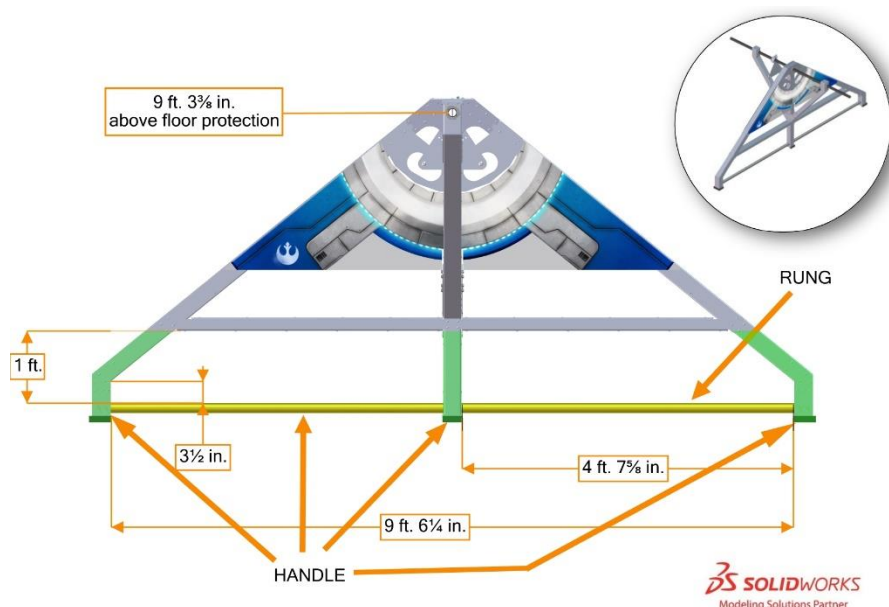

Figure 3-8 GENERATOR SWITCH
Each SHIELD GENERATOR has one (1) GENERATOR SWITCH per ALLIANCE. A GENERATOR SWITCH is a 7 ft. 6 in. (~229 cm) wide, 10 ft. 1½ in. deep (~309 cm), and 4 ft. 6 in. (~137 cm) tall assembly that swings from the top of the SHIELD GENERATOR. Each GENERATOR SWITCH has a HANDLE. The HANDLE is a structure that consists of a RUNG and the supporting structure below the horizontal beam of the GENERATOR SWITCH. A RUNG is a 1¼ in. schedule 40 aluminum pipe (1.66 in. (~4 cm) outer diameter) with two (2) exposed 4 ft. 7½ in. (~141 cm) long sections. The amount of clearance above the RUNG varies from a minimum of 3½ in. (~9 cm) to a maximum of 12 in. (~30 cm). For safety, foam corner cushions line the lowest edges of the HANDLE. The HANDLE (green and yellow) and RUNG (yellow) are highlighted in Figure 3-8 for clarity.